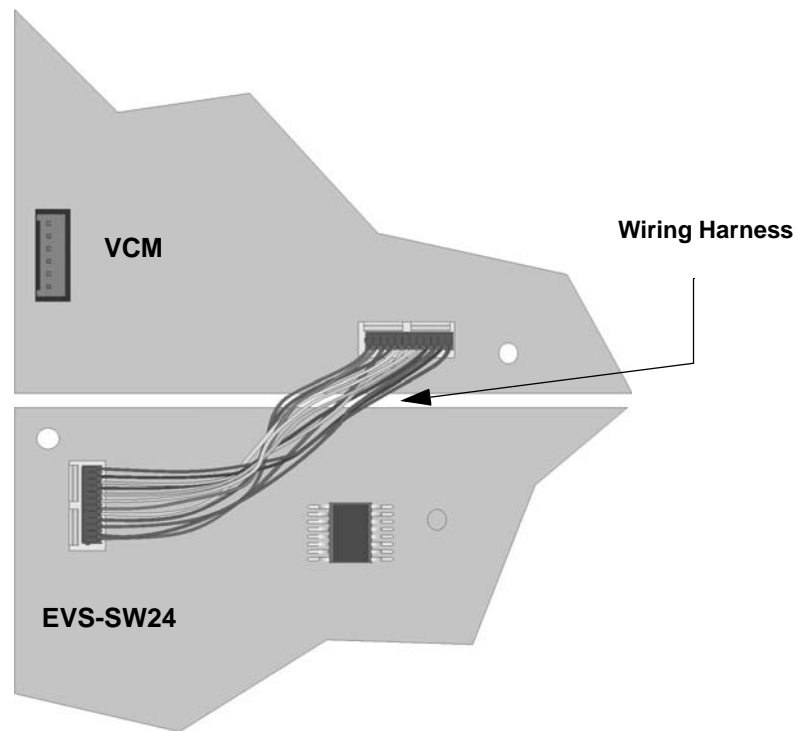

Figure 4-9 Wiring Harness Connection
6. Connect one end of the wiring harness (P/N 130398 supplied) to the EVS-VCM and the other end to the EVS-SW24 as shown in Figure 4-9.